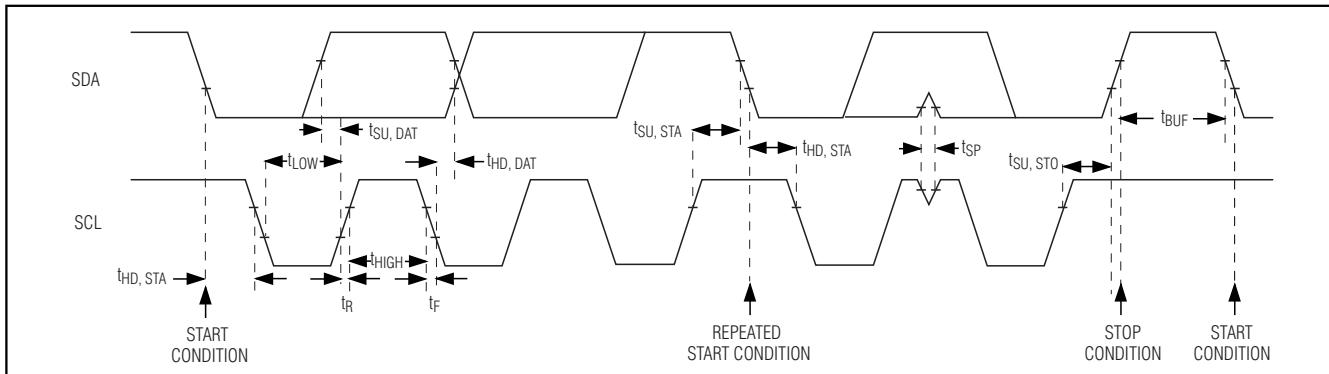

Figure 10. 2-Wire Interface Timing Diagram
facilitate communication between the MAX9851/MAX9853 and the master at clock rates up to 400kHz. Figure 10 shows the 2-wire interface timing diagram. The master generates SCL and initiates data transfer on the bus. A master device writes data to the MAX9851/MAX9853 by transmitting the proper slave address followed by the register address and then the data word. Each transmit sequence is framed by a START (S) or REPEATED START (Sr) condition and a STOP (P) condition. Each word transmitted to the MAX9851/MAX9853 is 8 bits long and is followed by an acknowledge clock pulse. A master reading data from the MAX9851/MAX9853 transmits the proper slave address followed by a series of nine SCL pulses. The MAX9851/MAX9853 transmits data on SDA in sync with the master-generated SCL pulses. The master acknowledges receipt of each byte of data. Each read sequence is framed by a START or REPEATED START condition, a not acknowledge, and a STOP condition. SDA operates as both an input and an open-drain output. A pullup resistor, typically greater than  $500\Omega$ , is required on the SDA bus. SCL operates as only an input. A pullup resistor, typically greater than  $500\Omega$ , is required on SCL if there are multiple masters on the bus, or if the master in a single-master system has an open-drain SCL output. Series resistors in line with SDA and SCL are optional. Series resistors protect the digital inputs of the MAX9851/MAX9853 from high-voltage spikes on the bus lines, and minimize crosstalk and undershoot of the bus signals.